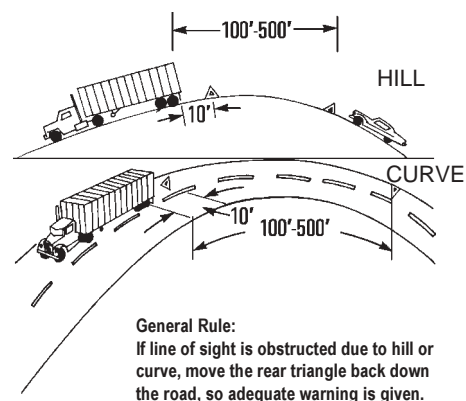

Figure 2-6 Obstructed View
- About 100 feet behind and ahead of the vehicle, on the shoulder or in the lane where you are in. (Figure 2-6)
- Back beyond any hill, curve, or other obstruction that prevents other drivers from seeing the vehicle within 500 feet. (Figure 2-6)